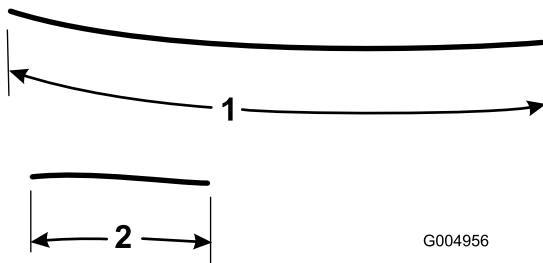

Figure 13
7. From the remaining piece of hose cut 2 lengths of hose, 55 inches (140 cm) and 22-1/2 inches (57 cm) (Figure 13). Discard any remaining hose. These will be used to complete the traction unit connections.